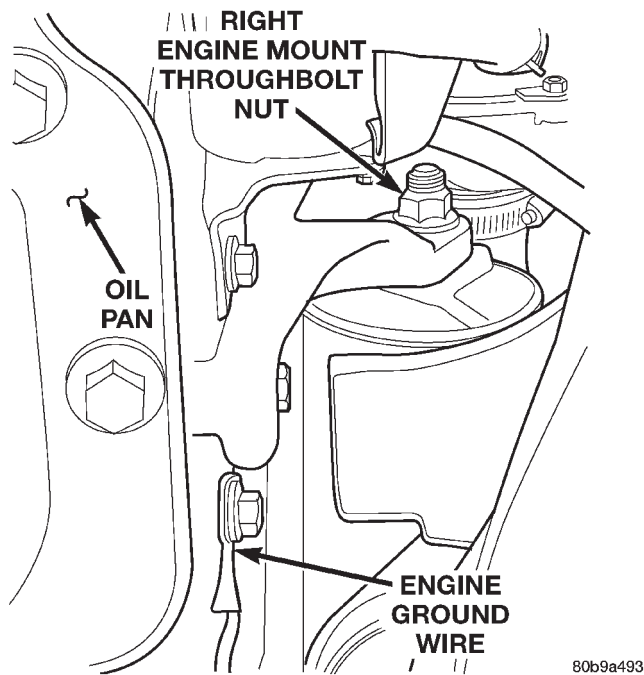
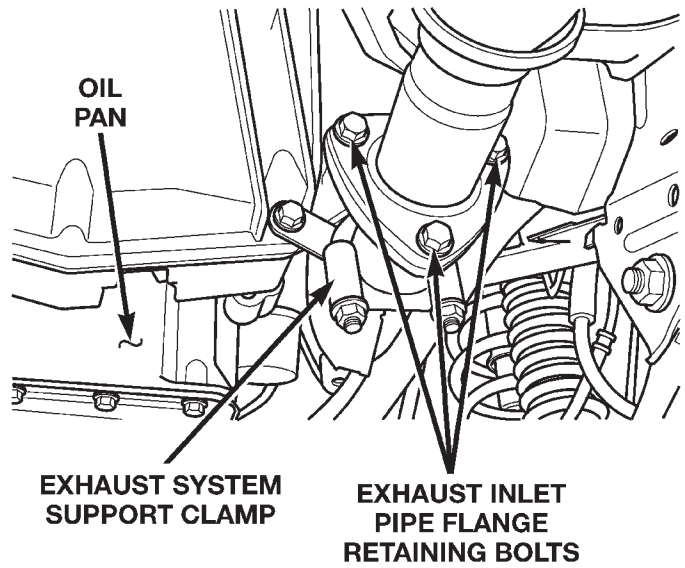

Fig. 18 Engine Ground Wire Location
Fig. 19 Exhaust System Inlet Pipe Connection
(21) On L.H.D. vehicles, disconnect the heater core coolant supply and the brake vacuum supply hoses from the engine.
(22) On R.H.D. vehicles, disconnect the heater core coolant supply and the brake vacuum supply hoses from the right side of the engine compartment. Remove the line assembly retaining bolt and bracket from the rear of the rocker cover and position the assembly out of the way.
(23) Working inside of the vehicle, remove the center console. Refer to Group 23, Body for the procedure.
(24) Remove the shifter boot seal.
(25) Disconnect the shifter from the transmission
(26) Raise the vehicle on a hoist.
(27) Remove the lower fan shroud retaining bolts and remove the lower fan shroud panel.
(28) Remove the engine ground wire (Fig. 18).
(29) Remove the right and left engine mount throughbolt nuts only. Do not remove the bolts at this time (Fig. 18).
(30) Drain the transmission fluid. Refer to Group 21, Transmission and Transfer Case for the procedure.
(31) Mark the position of the front and rear driveshafts in relation to their companion flanges.
(32) Remove the front driveshaft. Refer to Group 3, Differential and Driveline for the procedure.
(33) Remove the rear driveshaft. Refer to Group 3, Differential and Driveline for the procedure.
(34) Disconnect the exhaust system at the (3) bolt flange (Fig. 19).
(35) Remove the exhaust system support clamp (Fig. 19).